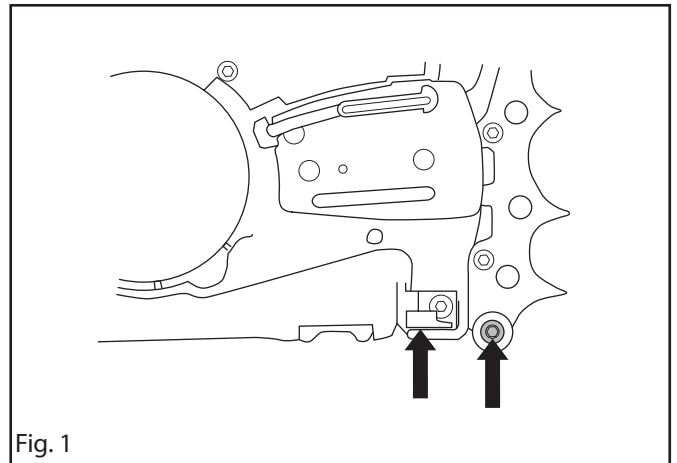

Fig. 1
2. Inspect the chain catcher and replace it if it is damaged (one screw). See figure 1.
2. Remove the spark-arrester if one is fitted (one screw). See figure 1.
3. Remove the four bolts. See figure 1.
4. Remove the gasket and cooling plate. See figure 1.